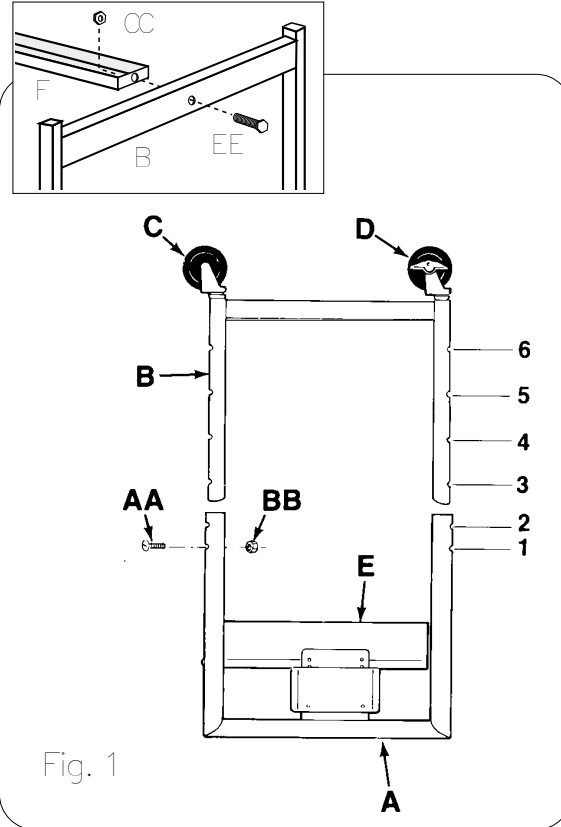

Fig. 1
Lay the table on a clean flat surface with the top section (A) flat and the H-Frame bottom section facing up. (See figure 1) The table is height-adjustable from 27" to 41" (with casters installed). To assemble, pull the lower section of the table up to the desired height, insert a 3/4" round head screw (AA) into the height-adjustment hole from the outside and fasten with a square nut (BB). Install remaining screws and nuts to all other legs of the table. Tighten securely.